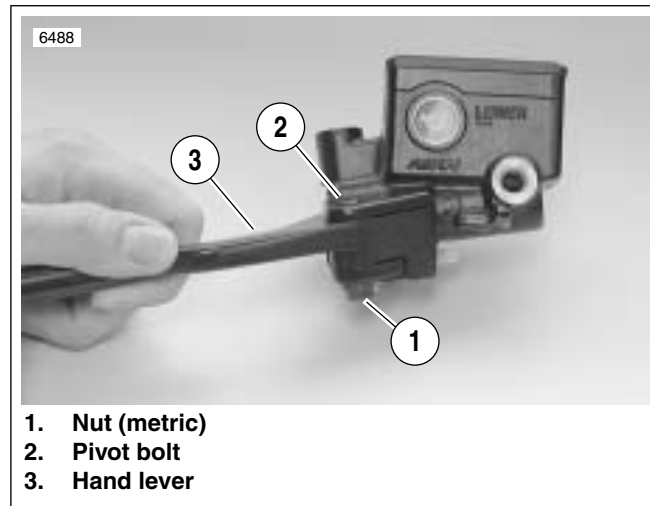
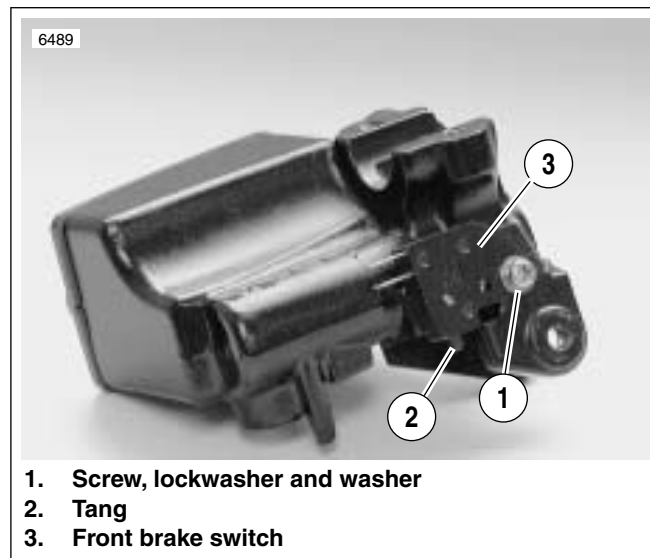

Figure 2-28. Hand Lever
Figure 2-29. Front Brake Switch
1. See Figure 2-28. Detach front brake hand lever.
- a. Remove nut (1) (metric) from lever pivot.
- b. Remove pivot bolt (2) from lever pivot.
3. See Figure 2-29. Remove screw, lockwasher and washer (1) holding front brake switch (3) to master cylinder assembly. Remove switch.
2. Insert piston assembly, spring first, into master cylinder. Secure with a **new** snap ring (6).
3. Install ridge on boot (5) into groove on piston (4).
4. See Figure 2-28. Install front brake hand lever.
- b. Lubricate pivot bolt (2) with LOCTITE ANTI-SEIZE.
- d. Install nut (1) (metric). Tighten to 44-62 **in-lbs** (5-7 Nm).
5. See Figure 2-29. Install front brake lamp switch (7).
- a. Attach front brake switch with screw, washer and lockwasher (1). Tighten to 7-13 **in-lbs** (0.8-1.5 Nm).